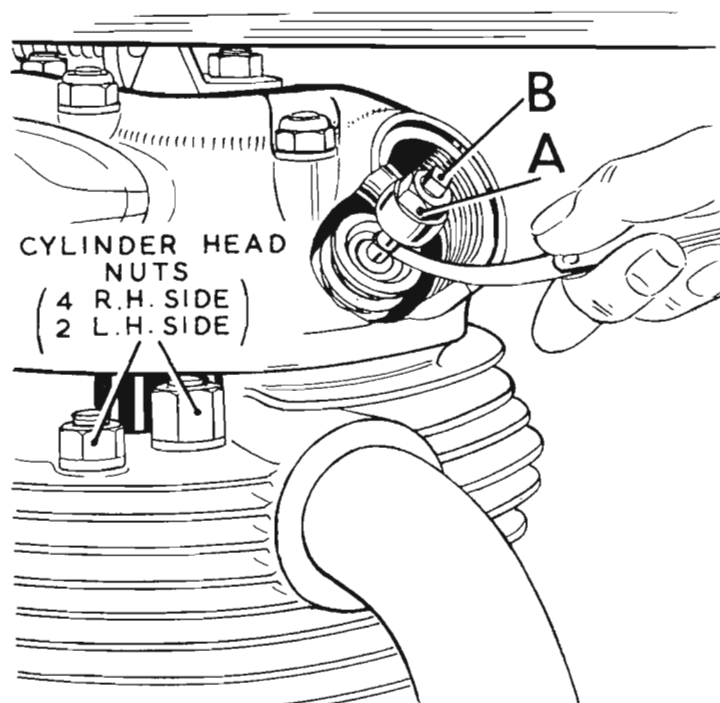

FIG. B.9 *Checking valve clearances.*
If the clearance requires adjusting slacken the locknut (A) and adjust the pin (B) until the correct gauge will just slide between the valve stem and pin (see Fig. B.9).